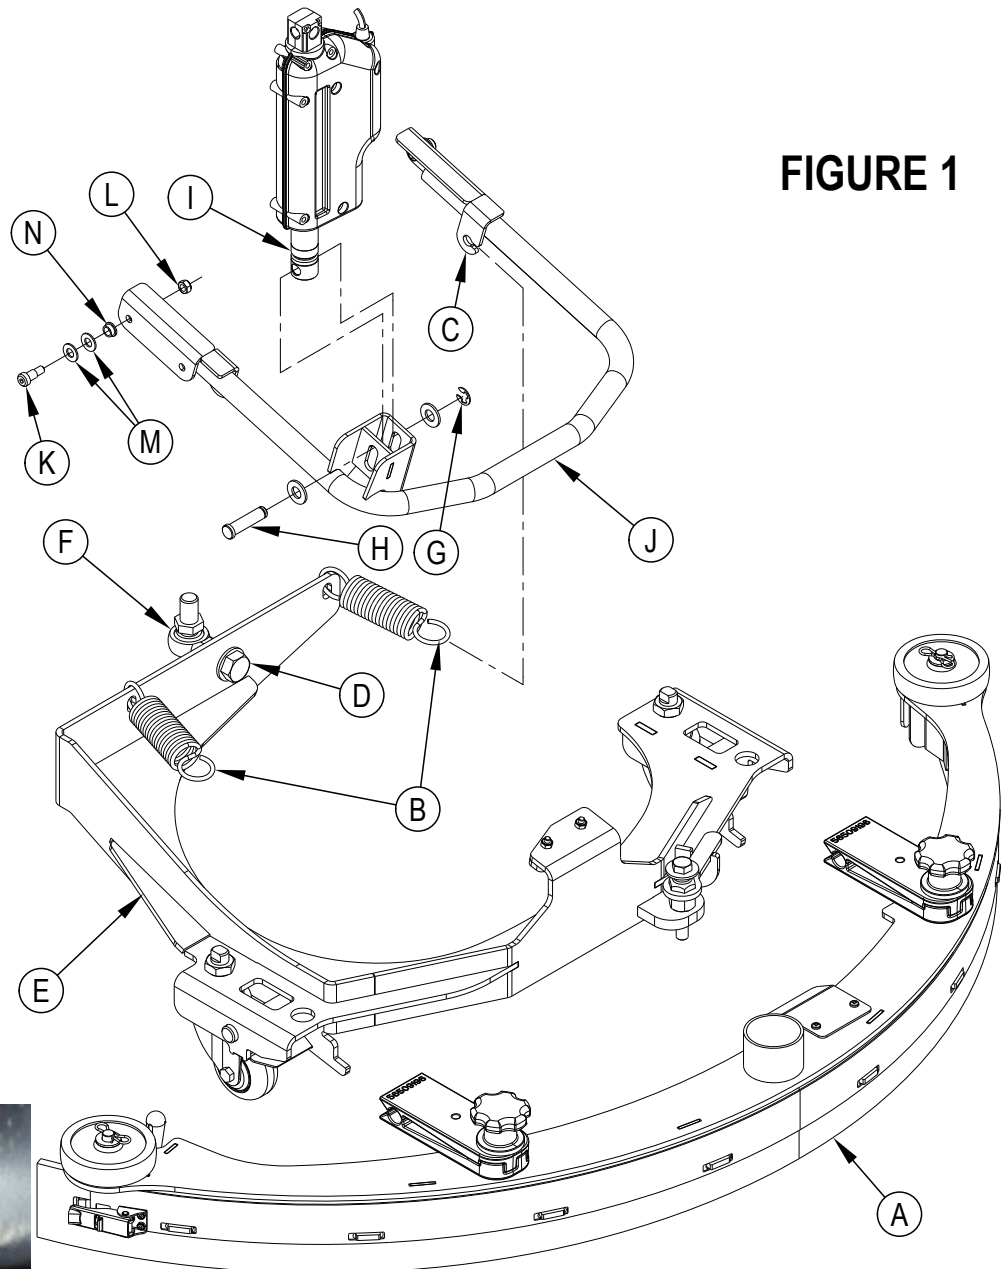

FIGURE 1
- 1 **SEE FIGURES 1 & 2.** Disconnect the vacuum hose from the Squeegee (A). Remove the Squeegee (A) from the machine by loosening the squeegee clamp knobs.
- 2 Disconnect the two Extension Springs (B) from the Spring Hook Brackets (C) using a spring puller (see "IMPORTANT TOOLS REQUIRED:").
- 3 Remove the 3/4"-16 Screw (D) and washer holding the Squeegee Support Assembly (E) to the Rod End (F). Then carefully remove the Squeegee Support Assembly (E) from the machine.
- 4 **SEE FIGURE 1.** Remove Retaining Ring (G), washers and Clevis Pin (H) to disconnect the Squeegee Lift Actuator (I) from the Squeegee Lift Arm (J). NOTE: Some earlier models used a cotter pin instead of a retaining ring.
- 5 Remove Shoulder Bolt (K), Nut (L) and Washers (M) from the machine chassis mounting hole. There is a Flange Bearing (N) between the chassis and the Squeegee Lift Arm (J) do not lose it.